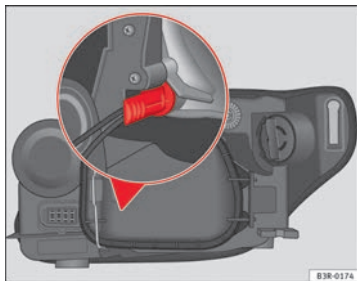

Fig. 198 Side lights. Bulb holder grip in vertical position
- Insert the bulb into the socket so that the side of the bulb holder grip is vertical ⇒ fig. 198 and press on it.